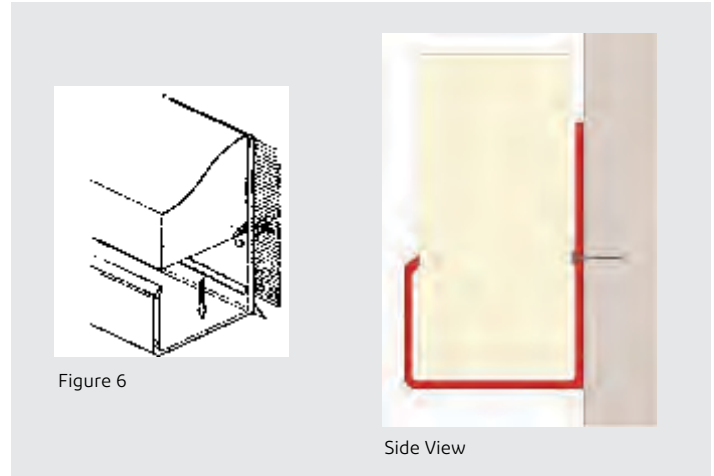

Figure 6
2. Fit closure around DuPont™ Thermax™ board edge. (Figure 6)